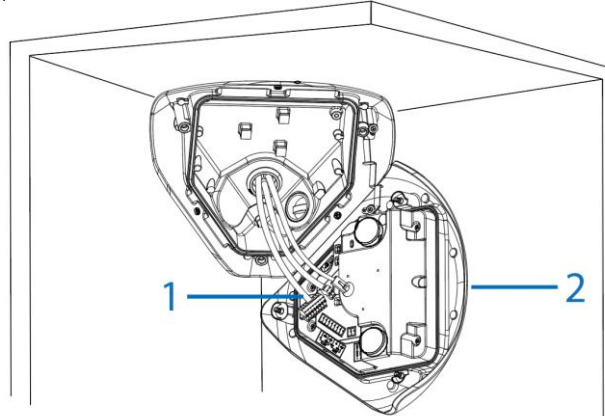

Figure 8
10. Hold the camera top cover (2) (Figure 8) up to the camera base and insert the power cables (1) (Figure 8) to their respective ports on the camera top cover.